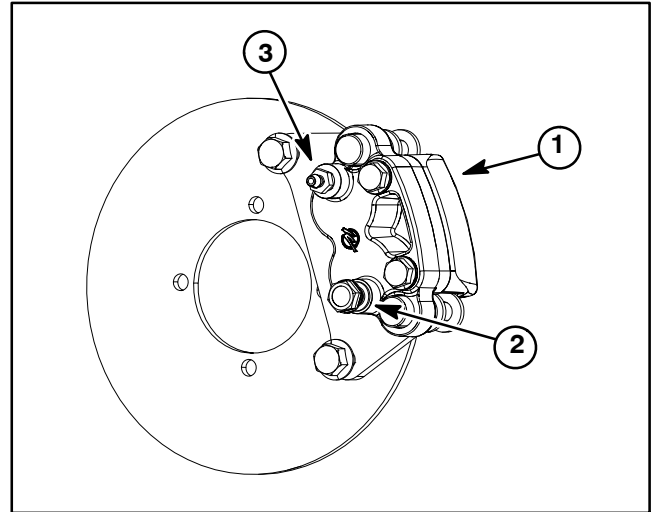
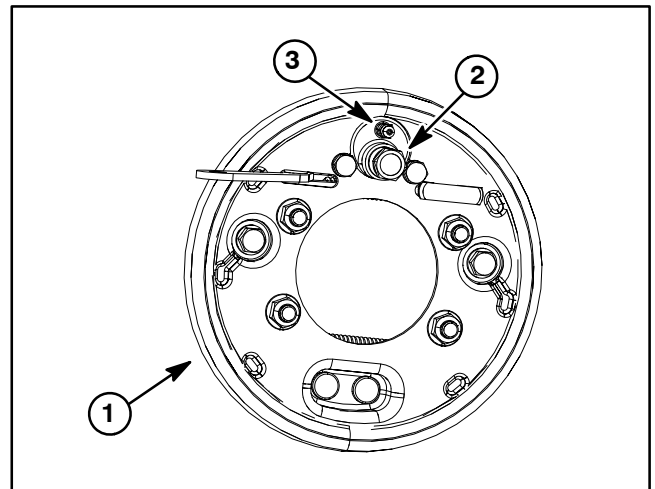

Figure 36
Figure 37
1. Connect a suitable transparent hose to bleeder valve on front brake caliper (Fig. 36) or rear wheel brake cylinder (Fig. 37). Submerge other end of hose in a glass container partially filled with clean brake fluid.